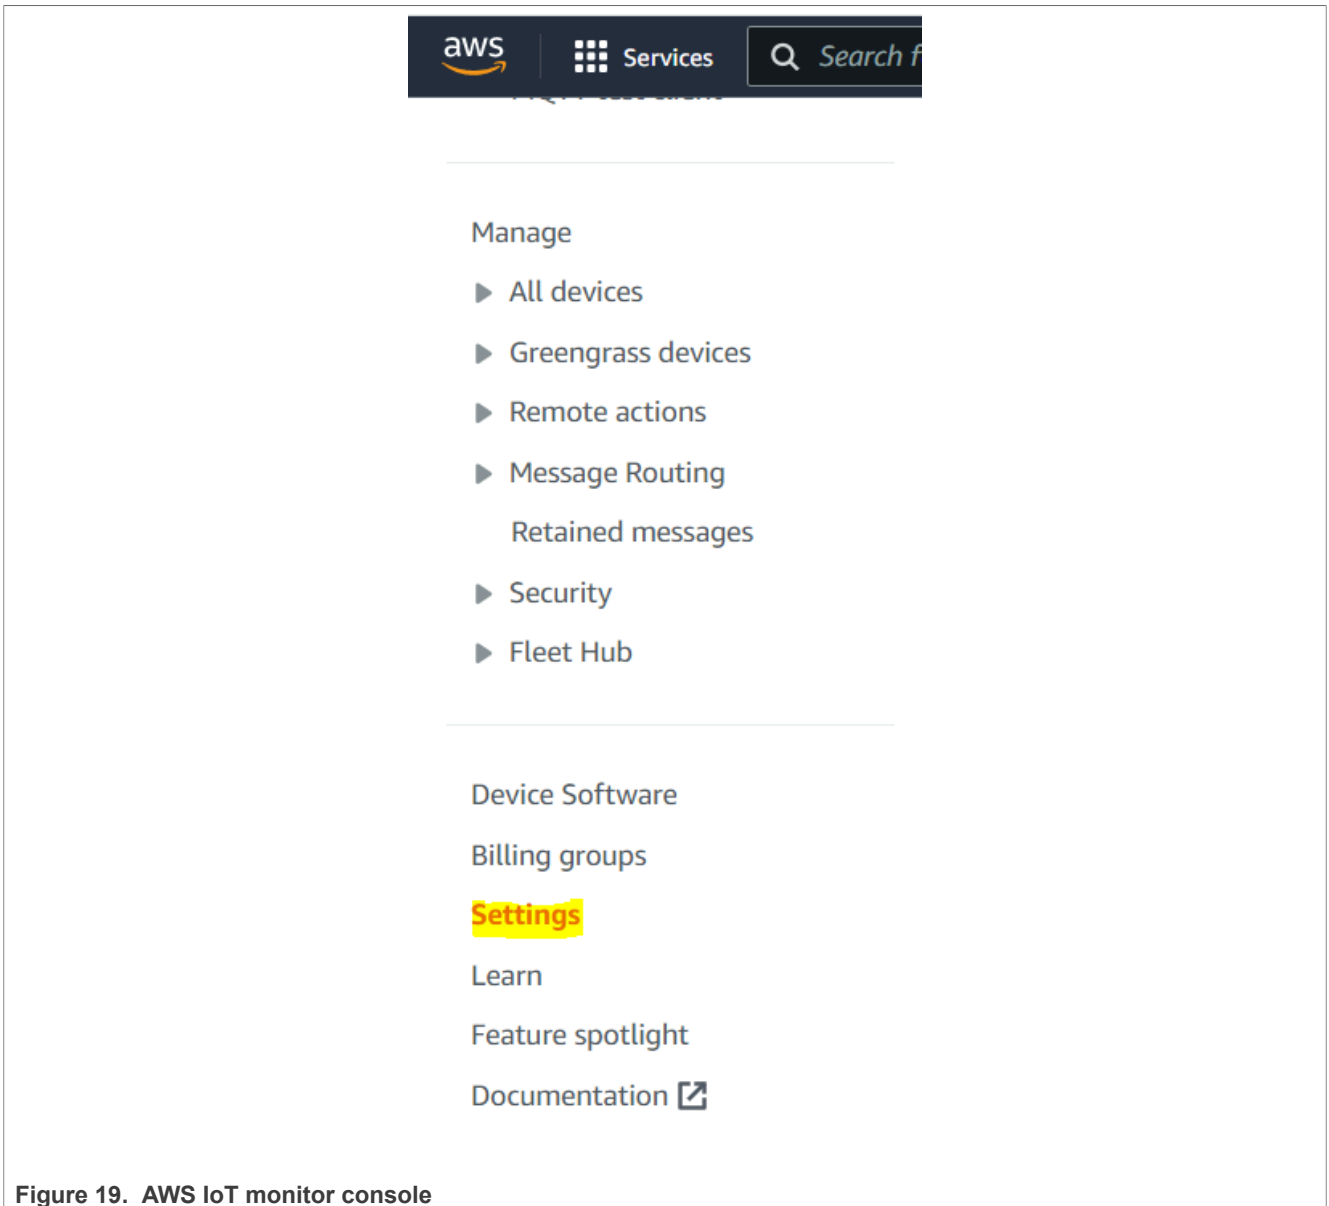

Figure 19. AWS IoT monitor console
3. Within the AWS IoT Console, select the **Settings** button down toward the bottom left section of the page as shown in Figure 19 below.